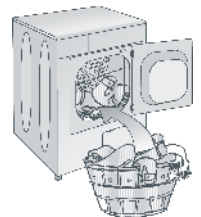

Fig.4 Loading the laundry
- Adding laundry to the machine more than the level shown in Fig.4 is not recommended. The drying performance of the product will decrease when the machine is overloaded.